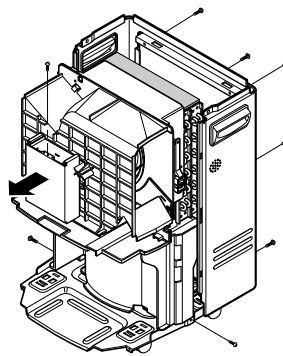

Figure 11
2. Remove a screws which fasten the control box (upper), and pull out the control box (upper). (See Figure 11)